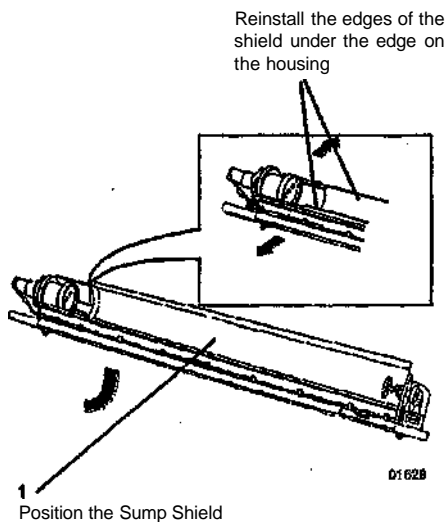

Figure 11. Reinstalling the Sump Shield
18. (Figure 11): Reinstall the Sump Shield, rear edge first.